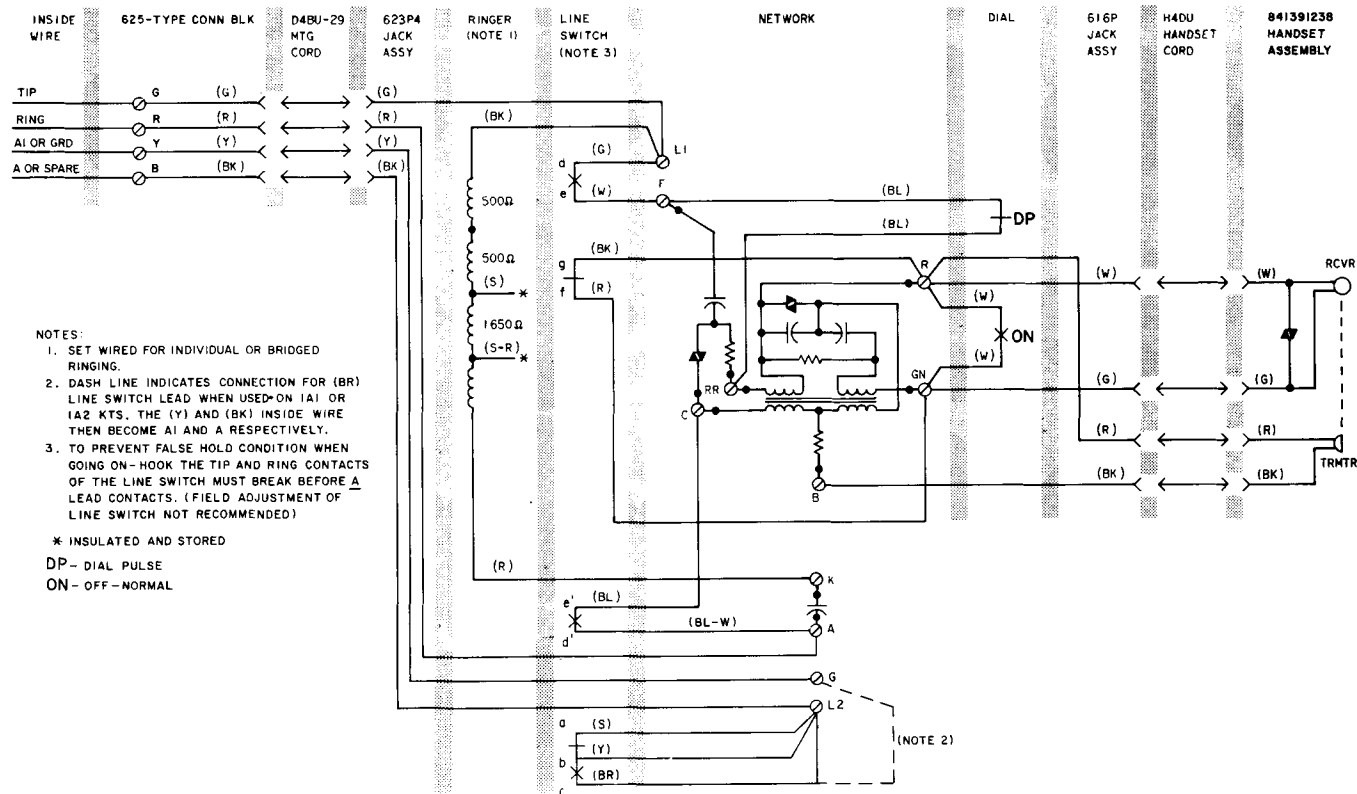

Fig. 8—881C109 Telephone Set, Connections
Note 2: For 881C109 and 2881C109 telephone set, the only modification needed is to move (BR) line switch lead from network terminal L2 and connect to terminal G, see Fig. 8 and 9.